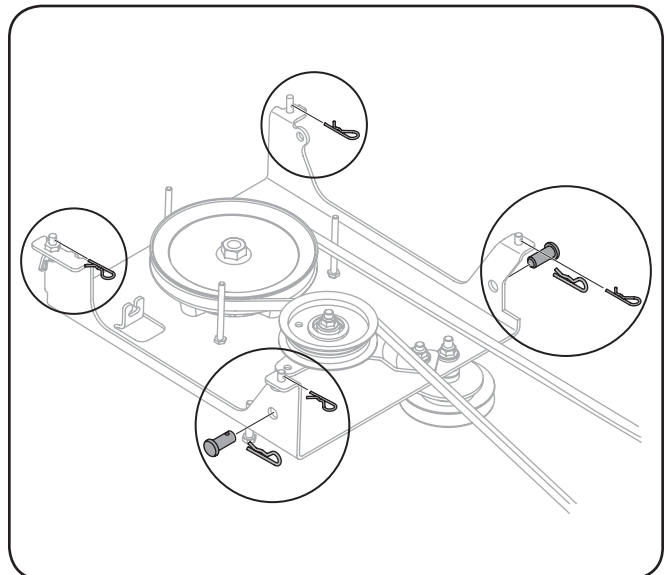

Figure 3-6
2. Remove and retain the four hairpin clips from the weld pins found on the top side of the undercarriage assembly. Remove and retain the two clevis pins with hairpin clips. This hardware is for later installation. See Fig. 3-6.